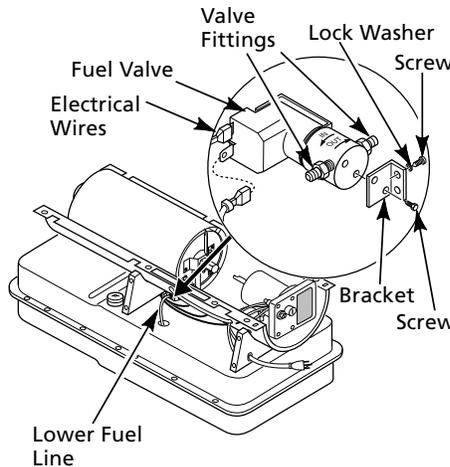

Figure 11 - Fuel Valve Replacement
3. Pull lower fuel line off the fuel valve fitting (See Figure 11, page 7).
4. Disconnect red and white wires from fuel valve (See Figure 11).
5. Using 1/4" nut driver remove 2 screws/lockwashers holding fuel valve and bracket to lower shell (See Figure 11). Save these screws/lock washers.